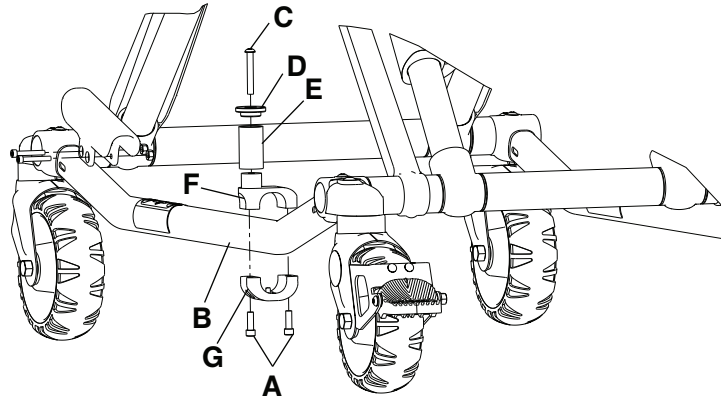

Figure 14 – Cot retaining post replacement
3. Using a T30 Torx driver, remove the two socket head cap screws (A) that secure the cot retaining post to the base tube (B) (Figure 14). Discard the screws and cot retaining post.
4. Insert the button head cap screw (C) through the retaining post cap (D) and post tube (E), and then into the top pin bracket (F) (Figure 14).
- Using a 5/32" hex wrench, tighten the button head cap screw (C) to secure the retaining post cap (D) and post tube (E) to the top pin bracket (F) (Figure 14). Using a torque wrench, torque the screw to 100-140 in-lb.
- Assemble the cot retaining post across the base tube. Align the holes of the brackets and insert two socket head cap screws (A) into the threaded holes of the bottom pin bracket (G) (Figure 14).